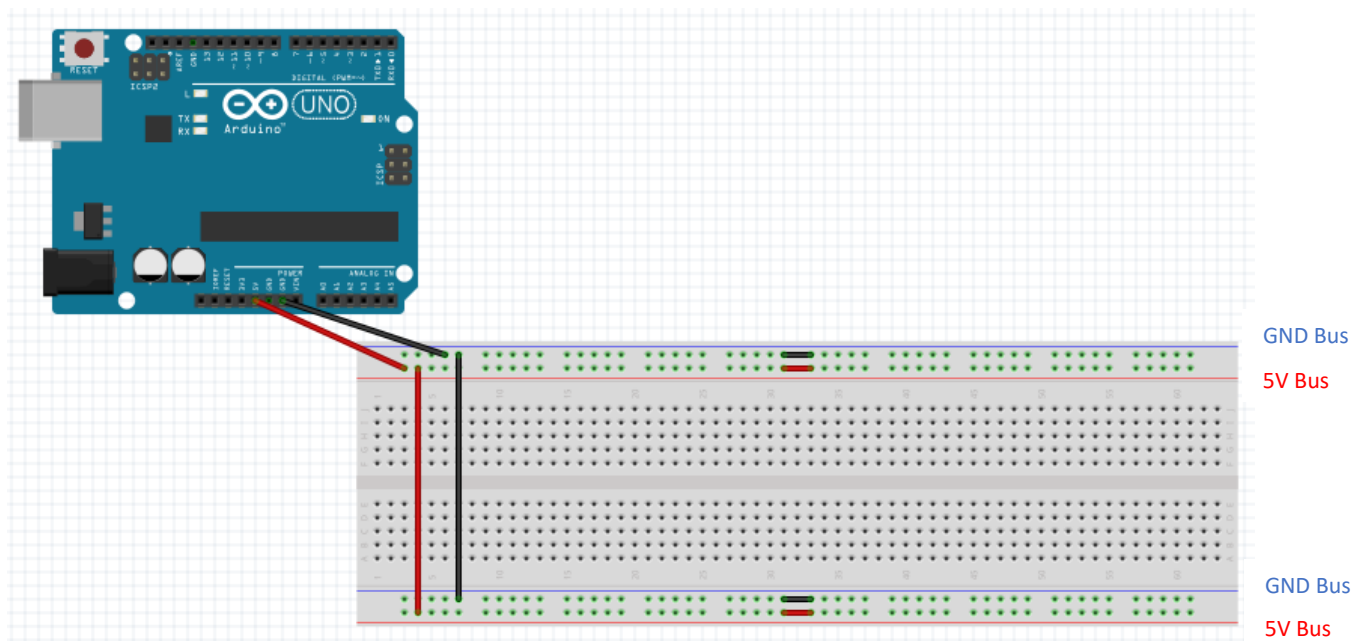

Figure 6
1. Connect a male-to-male jumper wire from the **5V pin** on the Arduino Uno to the **5V bus** (near the red line) on the solderless breadboard as shown by the diagonal red wire in Figure 6.
2. Use a male-to-male jumper wire to connect the **5V bus** on the top side of the board to the **5V bus** on the other side of the board as shown by the vertical red wire in Figure 6.
3. Connect a male-to-male jumper wire from the **GND pin** on the Arduino Uno to the **GND bus** (near the blue line) on the solderless breadboard as shown by the diagonal black wire in Figure 6.
4. Use a male-to-male jumper wire to connect the **GND bus** on the top side of the board to the GND bus on the other side of the board as shown by the vertical black wire in Figure 6.
5. Insert four male-to-male jumper wires across the middle of the negative and positive lines of both busses as shown by the horizontal black and red wires in Figure 6. This step is important to extend the 5V and GND busses along the entire length of the board.
**NOTE:** The male-to-male jumper wires from your kit will look different than the wires shown in Figure 6, but they can be used.